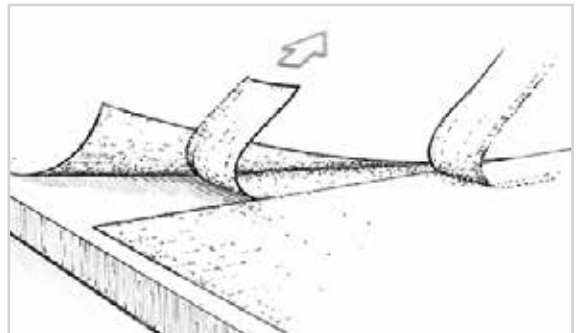

Figure 8-21 Remove the topmost trimming. Then lift the opposite cut edge to remove the overlapped trimming.
- c) Remove the topmost trimming and then lift the opposite cut edge to remove the overlapped trimming (Figure 8-21).